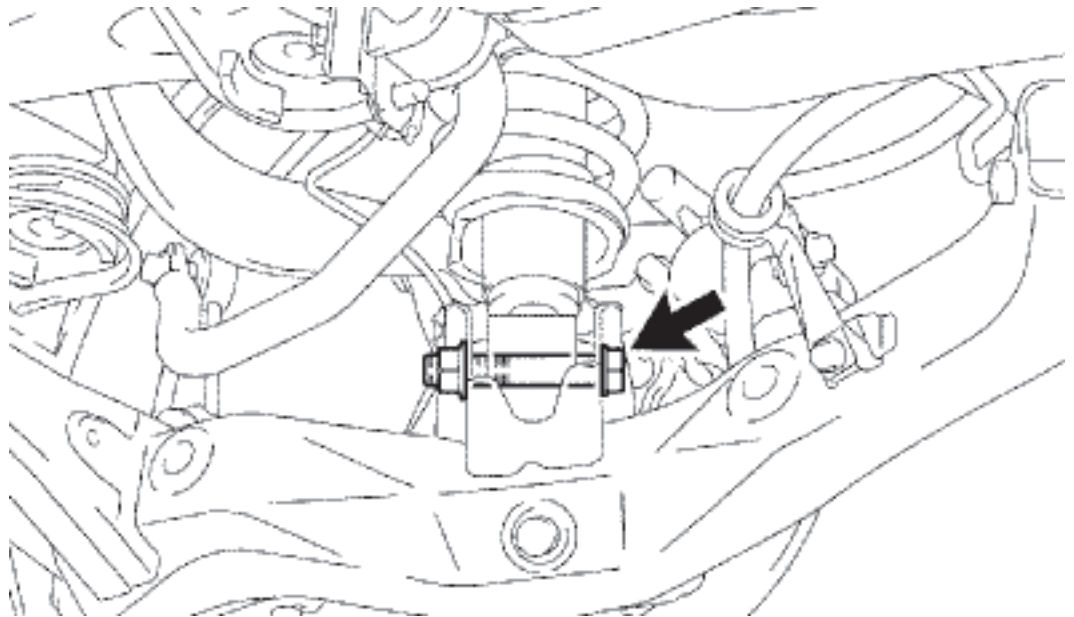

fig. 3
3. Unbolt the lower shock mount and remove bolt (fig. 3)